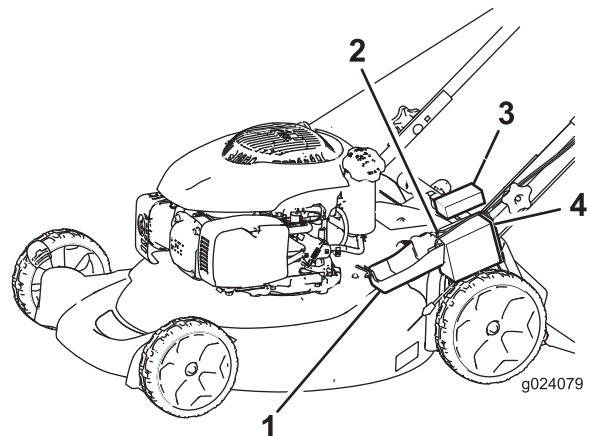

Figure 25
1. Unclip the battery cover and remove it (Figure 25).